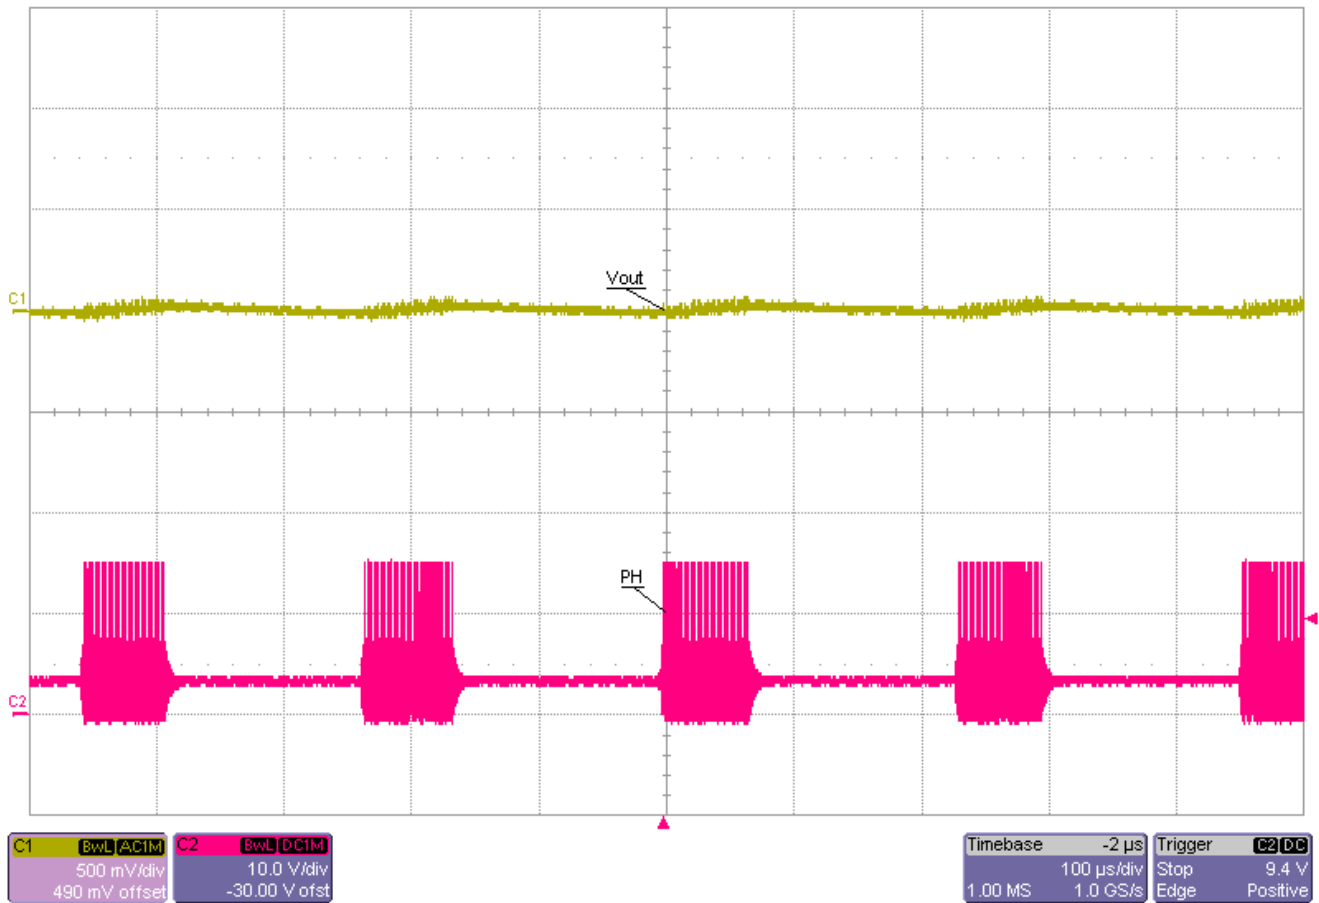

Figure 11. TPS54231EVM-372 Eco-mode™ Operation
Figure 11 shows Eco-mode operation, channel 1(C1) shows the output voltage while channel 2(C2) shows the switching node (PH).